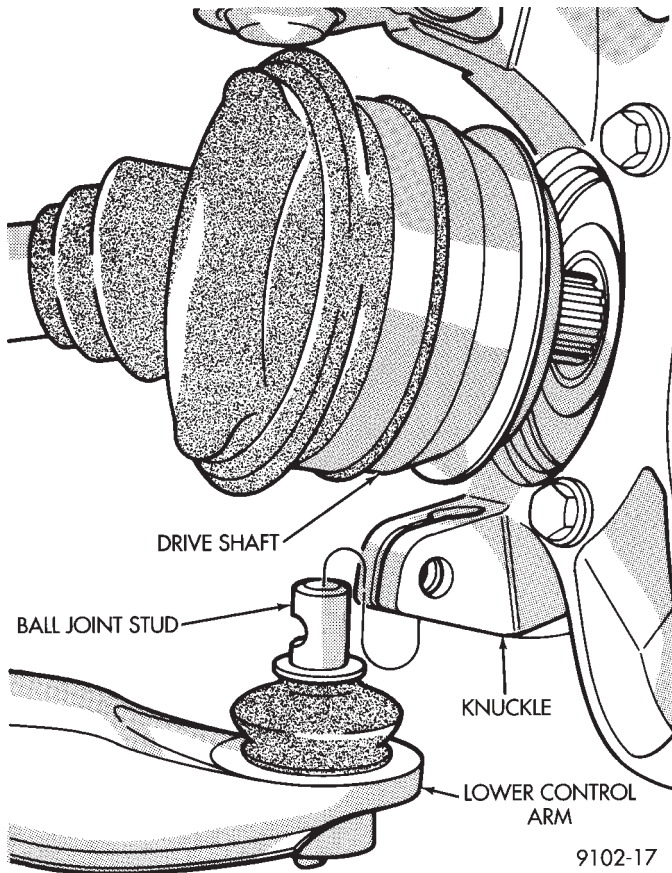

Fig. 13 Installing Knuckle Assembly
(5) Slide the drive shaft back into the hub and bearing assembly and install the steering knuckle onto the ball joint stud (Fig. 13).